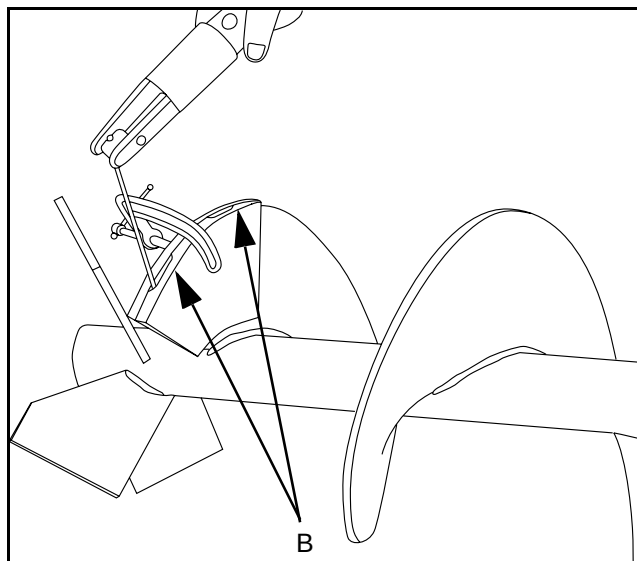

Figure 6 - 83 Installing Liners
- 6) On the first and last liners of each flight make a weld at the exposed edge for extra strength "C". (Figure 6 - 84)